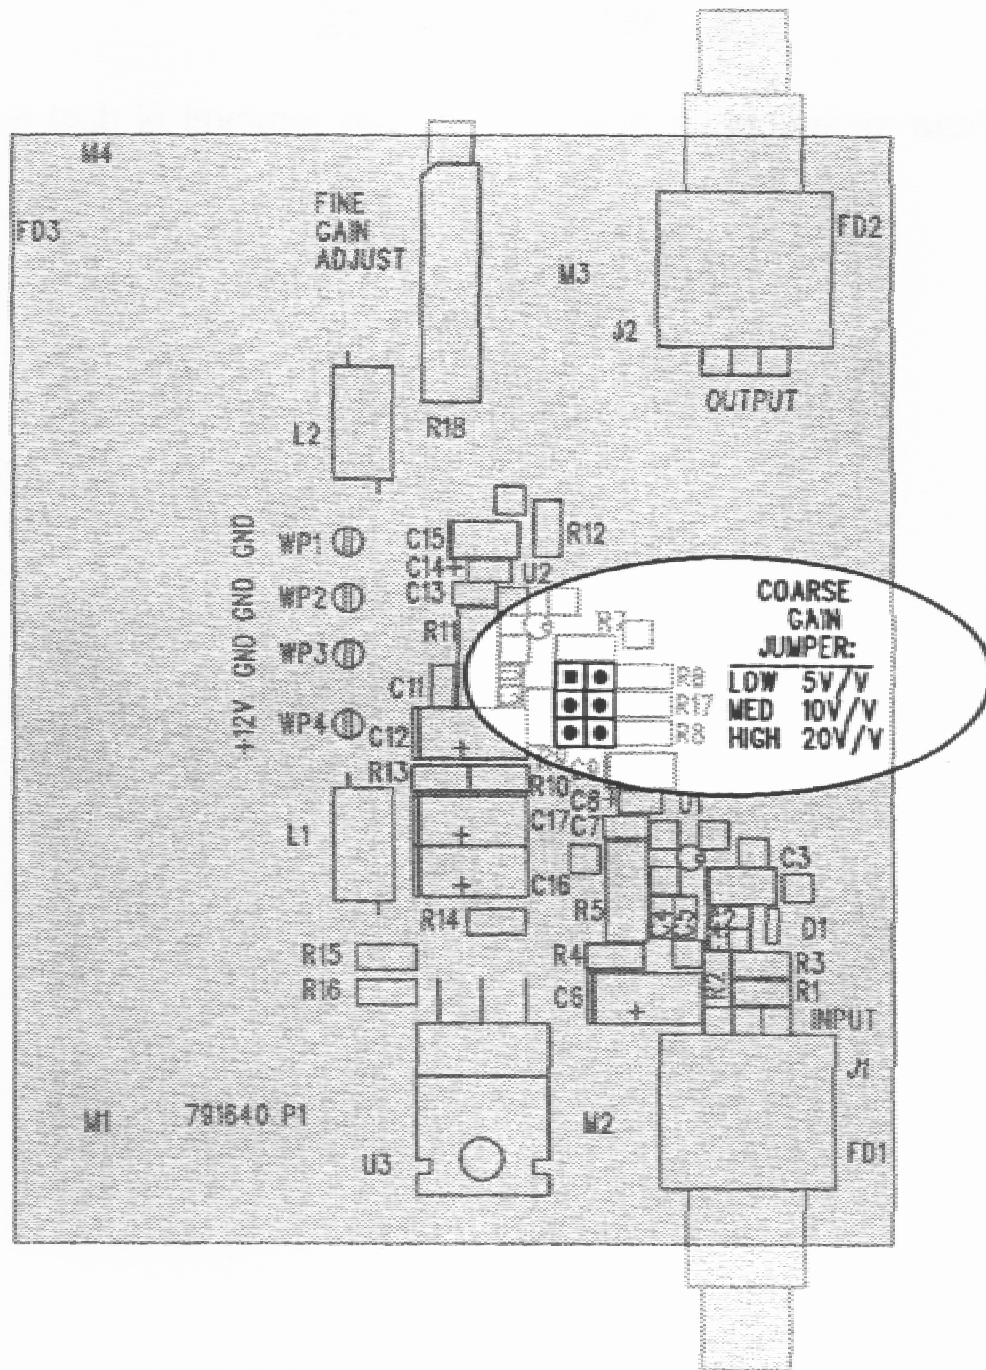

Fig. 1. Setting the Model 9326 Coarse Gain Jumper. (Note that the jumper values are printed on the board.)
3. Figure 1 shows the location of the gain jumper on the board. (Note that the values of the three jumper settings are printed on the board beside their respective settings.) Change the board jumper to the desired gain setting.